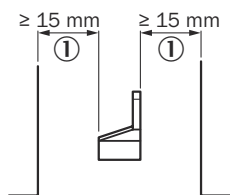
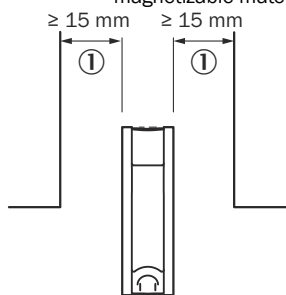

Figure 8: Minimum distance between position magnets and parts made of magnetizable material
Figure 9: Minimum distance between position magnets and parts made of magnetizable material
- ▶ The distance ① between the position magnet and parts made of magnetizable material must be at least 15 mm (see figure 8, page 11 and see figure 9, page 11).